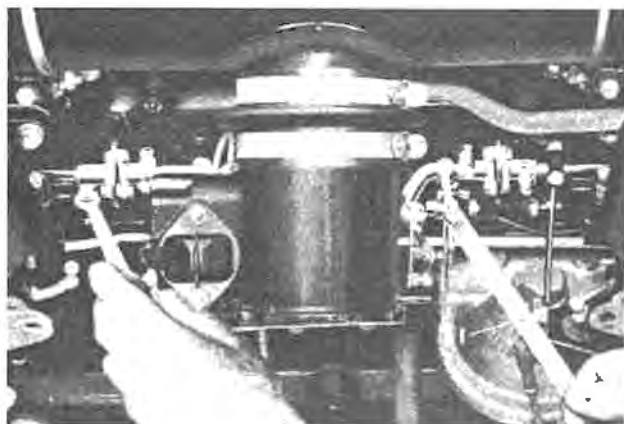

Fig. K.10.—Synchronising Throttles.
- (iv) Front coupling locked to give .080" clearance between fast idle cam and lever with throttle fully closed. The cam adjusting screw should lie central with cam face. Rear coupling locked on shaft with throttle closed (see Fig. K.10).